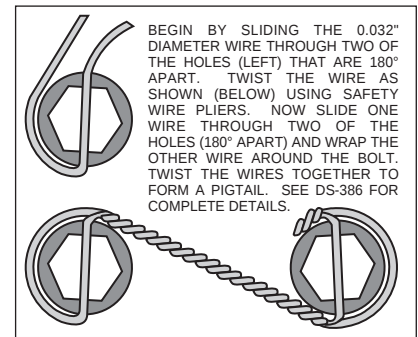
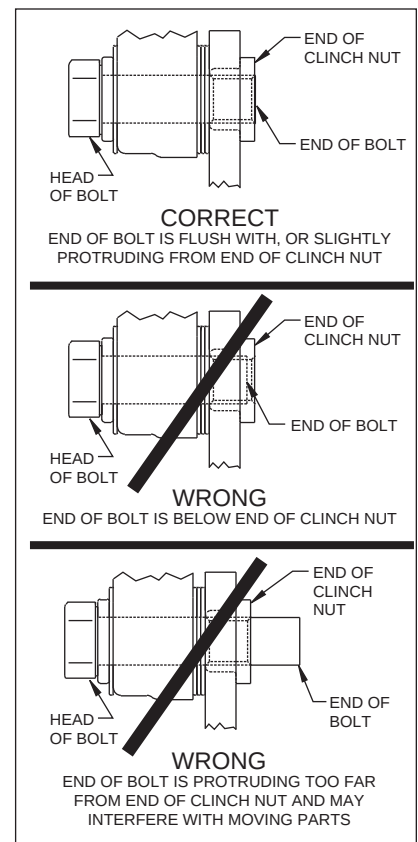

Figure 3. Safety Wire Diagram
Figure 4.
- Install the cable stop bracket (2) on the top front hole on the in-board side of the housing flange with the tab pointing toward the rear of the vehicle, held in place with the final bolt retaining the caliper mounting bracket (1). Apply red *Loctite*® 271 to the stock OEM bolt threads and torque to OEM specifications.
- Bolt the hat (3) to the rotor (4) using washers (5) and bolts (6). Torque bolts (6) to 180 in-lb. Safety wire rotor bolts (6) using standard 0.032 inch diameter stainless steel safety wire as shown in Figure 3. Please refer to Wilwood's data sheet DS-386 (available at www.wilwood.com/pdf/ds386.pdf) for complete safety wire installation instructions.
- Align the correct hole pattern in the hat (3) with the stud pattern on the axle flange. **NOTE:** Some OEM and after market axles come with stud sizes larger than 0.50" diameter. Verify stud size and have a qualified machine shop drill the hats to the correct size. Slide the hat/rotor assembly (3 and 4) over the wheel studs and against the axle flange face.
- WITH THE BLEED SCREWS POINTING UP, mount the caliper (7) over the rotor (4) and onto the caliper mounting bracket (1) using washers (8) and mounting bolts (9). View the rotor through the top opening of the caliper. The rotor should be aligned in the center of the caliper. If not, adjust the caliper by using 0.032 inch shims (10) by placing them between the caliper mounting bracket (1) and the caliper (7). Add as many shim washers (10) as necessary to achieve the correct alignment. **NOTE:** The end of the bolt must be flush with or slightly protruding from the head of the clinch nut. See Figure 4. Place spare shims (10) between washer and caliper mounting ear to achieve the proper mounting fastener configuration. Always use the same amount of shims on both the top and bottom caliper mounting bolts (9). Apply red *Loctite*® 271 to the mounting bolt threads (9), torque to 30 ft-lb. Safety wire the caliper mounting bolts (9).
- Position the Wilwood disc brake pads (11) into the caliper (7) and fasten with cotter pin (12). Steel backing plate side of brake pad should face the caliper pistons.
- Disassemble the mechanical parking brake caliper (13) before mounting. Replace the bullet pin (rounded side against moving arm), steel pad backing plate and brake pad in the operating half of the mechanical caliper. Slide operating half of caliper onto the in-board side of the bracket with moving arm pointing toward the front of the vehicle. Mount outboard half of caliper on opposite side of rotor with the two spacers located between the caliper halves. Bolt mechanical caliper assembly together with 3/8-24 bolts provided with the mechanical caliper. The mechanical caliper should slide on the bracket ears at this point. Loosen the adjusting nut on the operating half of the mechanical caliper. Lift the arm up to its highest point and adjust the bolt until the arm can only move down between 1/4 inch to 3/8 of an inch until pressure is applied to the rotor, then tighten the adjusting nut. After the parking brake has been used a few times, it may need to be readjusted. **NOTE:** Clevis and cable kits which attach to the mechanical arm are not included in the Wilwood parking brake kit. Because of the numerous variations it is impossible to supply a generic style that would be applicable to all applications. Gennie Shifter, and their distributors carry a complete line of cable kits and accessories that will fit this system. They can be reached at 626 • 337-2536. Specify a Clevis kit with a 1/4 inch pin.